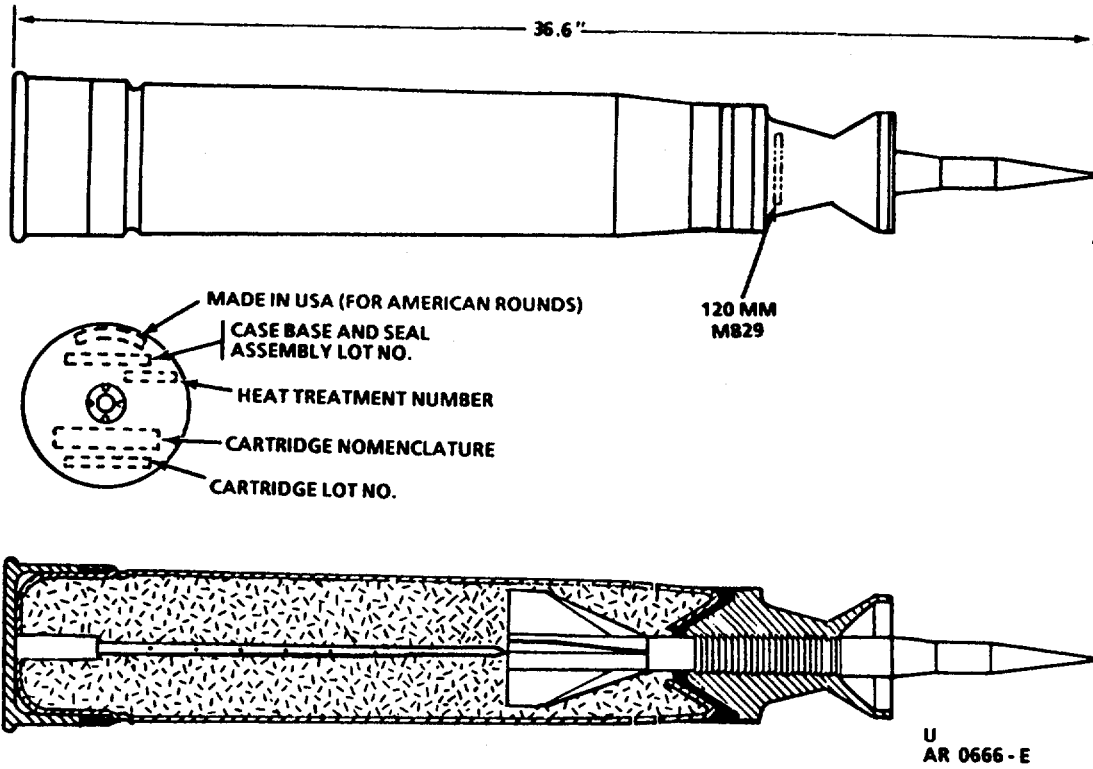

Figure 1. Cartridge, 120mm: APFSDS-T, M829.
a. Description for Cartridge 120mm: APFSDS-T, M829 and M829A1 (figs. 1 and 2). The M829 and M829A1 are U.S. designed and developed 120mm APFSDS-T cartridges. The complete round contains a propulsion system consisting of a metal cartridge case base with combustible sidewall, granular propellant within a containment device to prevent spillage, M125 primer for M829, and M129 primer for M829A1, while the projectile consists of the subprojectile and aluminum sabot. The depleted uranium (DU) penetrator is a one piece design which is assembled into the sabot by means of grooves. There is a six bladed aluminum fin with tracer assembly fitted to the rear of the subprojectile and a windshield fitted to the front. The aluminum sabot is composed of four 90-degree (M829) and three 120-degree (M829A1) noninterchangeable segments with internal grooves matching those on the outer diameter of the subprojectile. The sabot has a silicone rubber seal at the rear to prevent leakage of gases.
(1) Use. The M829 and M829A1 are kinetic energy, armor-piercing antitank rounds intended for use with the 120mm smooth bore M256 cannon.
(2) Functioning. The M829 and M829A1 are loaded and fired from the 120mm tank gun in the normal manner. Upon initiation of the electric primer in the breech of the weapon, the resulting flash ignites the propelling charge and combustible case, generating gases which drive the projectile from the gun and ignite the tracer. The rear seal of the sabot prevents gas leakage between the sabot segments and the driving forces (gas) propelling the subprojectile downbore. Upon leaving the gun, aerodynamic forces cause the sabot to separate from the subprojectile allowing the subprojectile to continue on a true course to target while the sabot segments fall quickly to earth. Target penetration is affected strictly by the high kinetic energy of the subprojectile's high density core when it impacts.